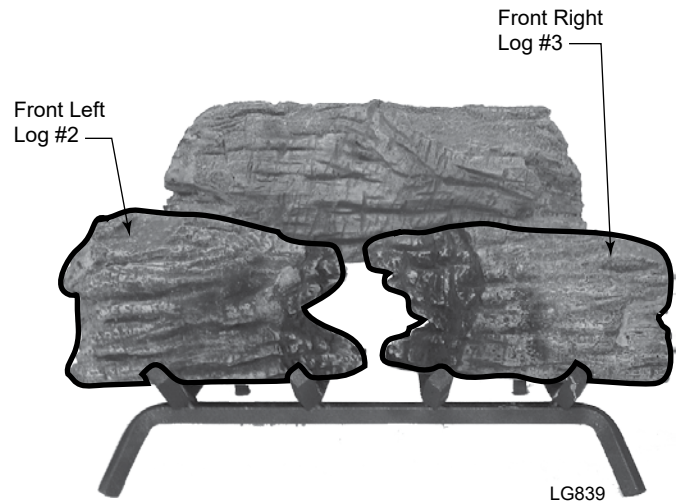

Figure 19 -
3. Place front left log #2 on the front of the grate and to the left. *Figure 19*
4. Place front right log #3 on the front of the grate and to the right. *Figure 19*